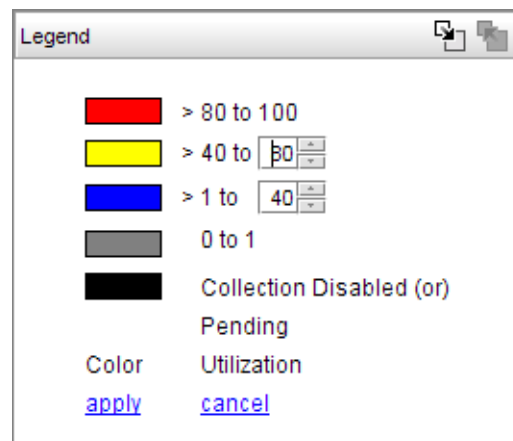

FIGURE 417 Utilization Legend in edit mode
1. Click the **change** link in the **Utilization Legend**, as shown in Figure 417 on page 981.